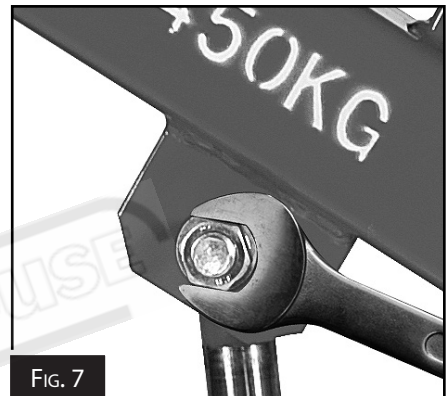

FIG. 7
5. Lift up the boom and line up the holes in the boom with the end of the jack and secure with the M16 x 80mm bolt, flat washer, spring washer and nut supplied. (Fig. 7)